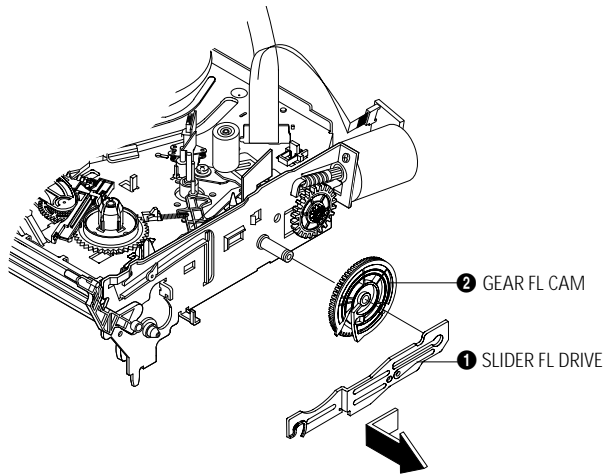

Fig. 5-13 Slider FL Drive Removal
- 1) Pull the Slider FL Drive ❶ to the front direction.
- 2) Remove the Slider FL Drive ❶ in the direction of arrow. (Refer to Fig. 5-13)
- 3) Remove the Gear FL cam ❷.